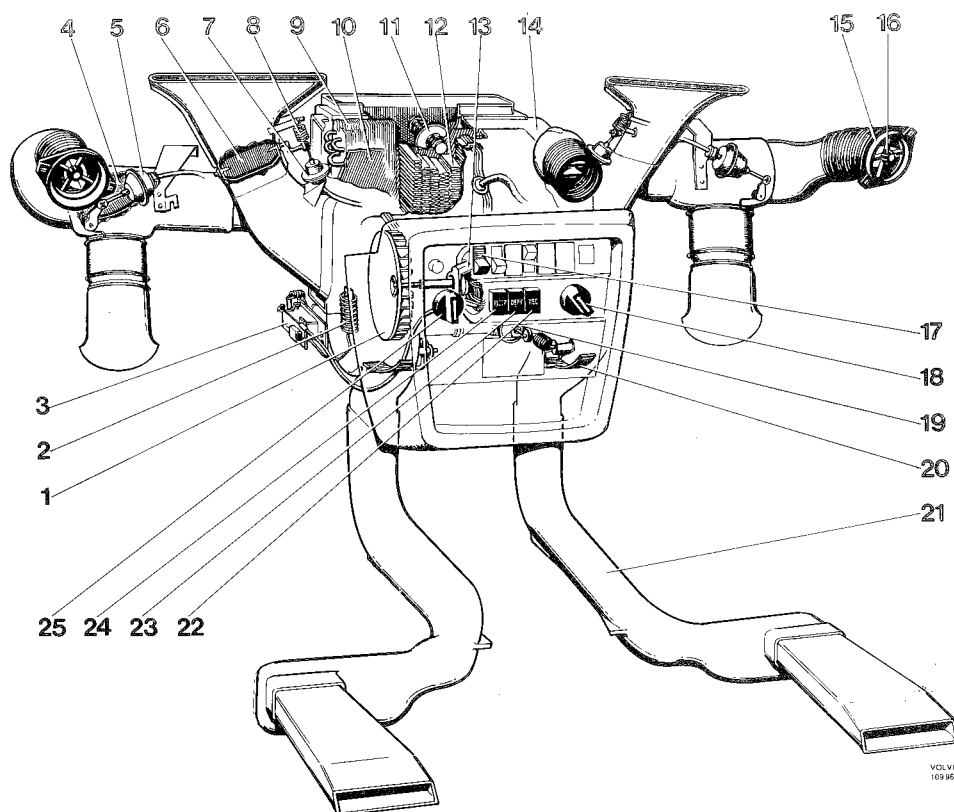

Fig. 8-39. Combined unit
This is a combined heater and fresh-air unit, prepared for installation of air conditioning. It consists of a central unit (14, Fig. 8-39), located under the dash, and air ducts and vents for distributing the air to the various points inside the car. All shutters for directing the air are regulated by vacuum, which is taken from the engine intake manifold via a vacuum tank placed under the dash. The four blow-in valves (15) on the dash are manually adjustable and can be turned, opened and closed irrespective of each other and by means of a knob (16) in the center of the blow-in valve. An fan motor (13) located in the central unit takes care of the air circulation. This motor is provided with a through-flowing shaft and two turbine wheels (1). The cellular assembly (12) of the heater system is placed in front of the fan motor. The evaporator (9), for the air conditioning, is mounted in front of the heater system cellular assembly.